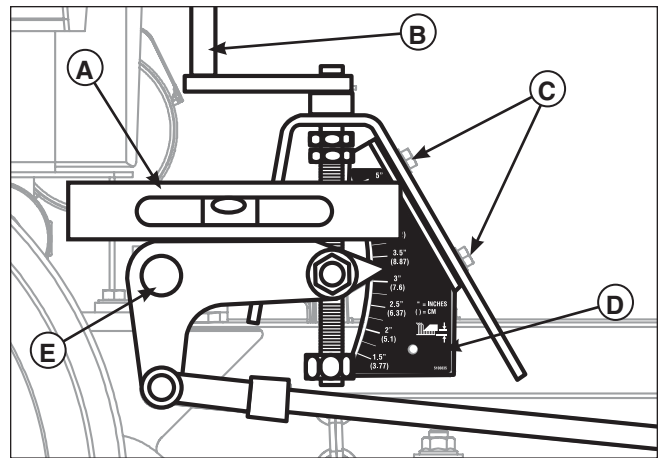
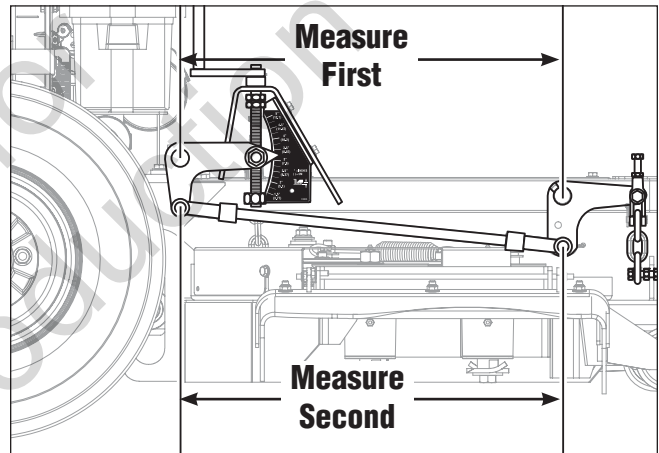

Figure 24. Deck Height Position
Figure 25. Measure and Adjust Lift Rod Timing
2. Place a level (A, Figure 24) on top of the cutting height indicator (E) and adjust the cutting height indicator up or down with the deck height adjustment handle (B) until the cutting height indicator is level.
3. Loosen, but do not remove the height indication plate hardware (C) that secures the height indication plate (D). Maneuver the height indication plate up or down until the cutting height indicator points to the 3.25" (8,26 cm) mark. Tighten the height indication plate hardware.
4. Refer to Figure 25. To check the deck lift rod timing, measure and record the distance between the lift pivots and the rod pivots. Repeat for the other side of unit.